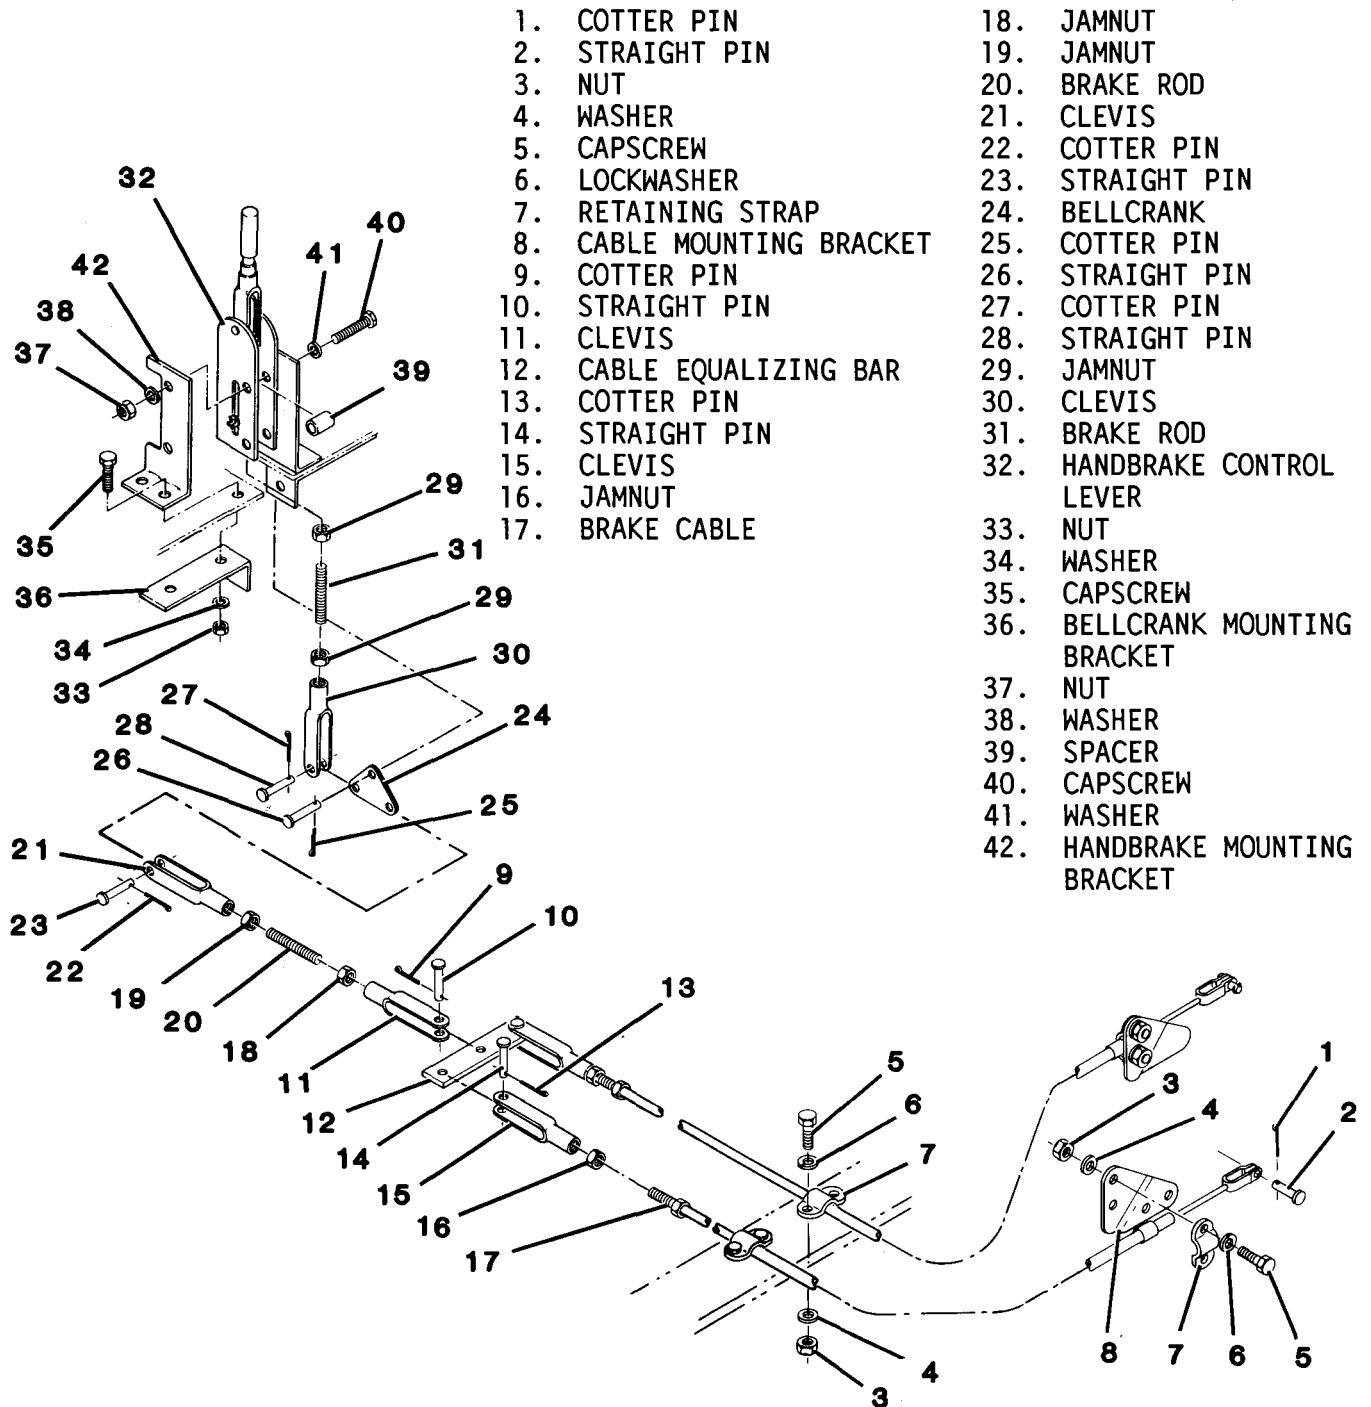

Figure 4-55. Brake Control Replacement
(1) Chock both wheels.
(2) On inside of wheel, remove cotter pins (1, figure 4-55) and straight pins (2) that release brake cables (17) from remote control levers on brake.
(3) Remove nuts (3), washers (4), capscrews (5), lockwashers (6), and retaining straps (7) to release brake cables (17) from cable mounting brackets (8) and generator set frame.
(4) Remove cotter pin (9) and straight pin (10) to disconnect clevis (11) from cable equalizing bar (12).
(5) Remove cotter pins (13) and straight pins (17) to disconnect brake cables (17) from cable equalizing bar (12).
(6) Unscrew clevis (15) and jamnut (16) from brake cables (17).
(7) Unscrew jamnuts (18, 19) to remove brake rod (20) from clevis (11) and clevis (21).
(8) Remove cotter pin (22) and straight pin (23) to remove clevis (21) from bellcrank (24).
(9) Remove cotter pin (22) and straight pin (26) to free bellcrank (24) from bellcrank mounting brackets (36).
(10) Remove cotter pin (27) and straight pin (28) to remove bellcrank (24) from clevis (30).
(11) Unscrew jamnuts (29) and clevis (30) to remove those items and brake rod (31) from handbrake control lever (32).
(12) Remove nuts (33), washers (34), capscrews (35), and bellcrank mounting brackets (36).